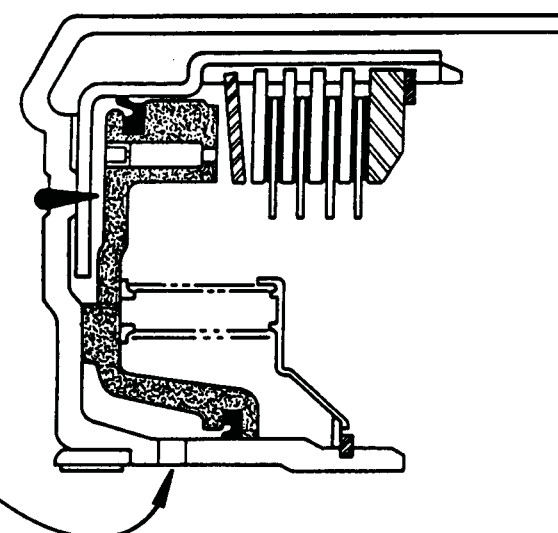

Figure 149
2. Use Figure 149 to identify which of the reverse input housings you have, to ensure proper build content.
14. Alternate friction and steel plates until you have installed 4 friction and 4 steel plates. Refer to Figure 149 for clutch stack-ups to ensure proper build content.
2. REQUIRES REVERSE INPUT HOUSING WITH BALL CAPSULE AND STEEL PISTON. REFER TO FIGURE 149.